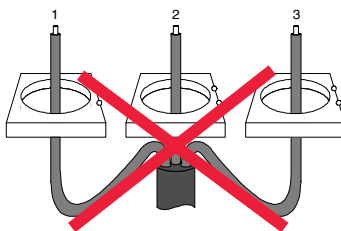

Fig. 3
2. DO NOT pass individual conductors through separate toroids, as shown in Fig. 3.